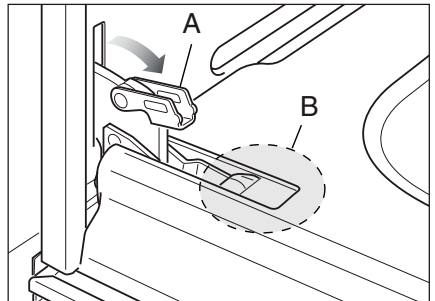

Fig.36b
- Open the lever "A" completely on the left and right hinges (Fig. 36b).